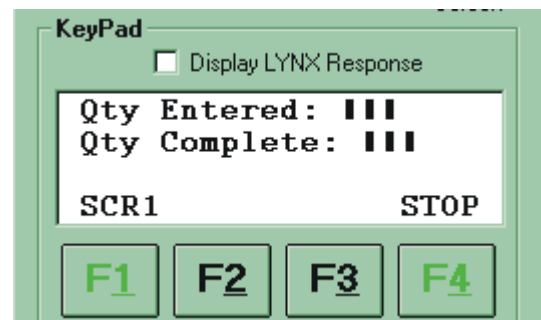

Figure 4.26: Screen 2 Setup
- 2] Enter the text into the display window as shown in figure 4.26. The Qty Complete register has not been created yet.
- 3] Insert the Quantity register as shown in figure 4.26. The Qty Complete register has not been created yet.